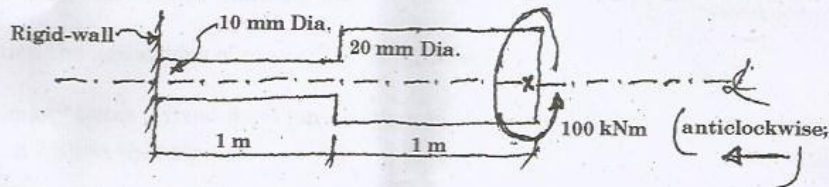

Figure 4
- b) i) For the stepped-shaft shown in Fig. 4, find the net-twist in it. Take the modulus of rigidity as 80 GPa. (8)